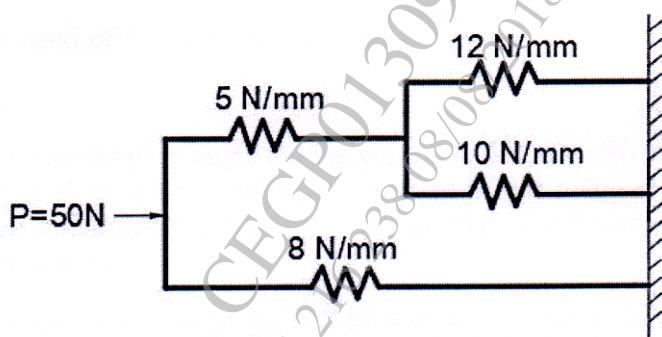

Figure 2 : Q 6(a)
- Q6) a)** For the Axially Loaded Spring System as shown in figure 2, determine